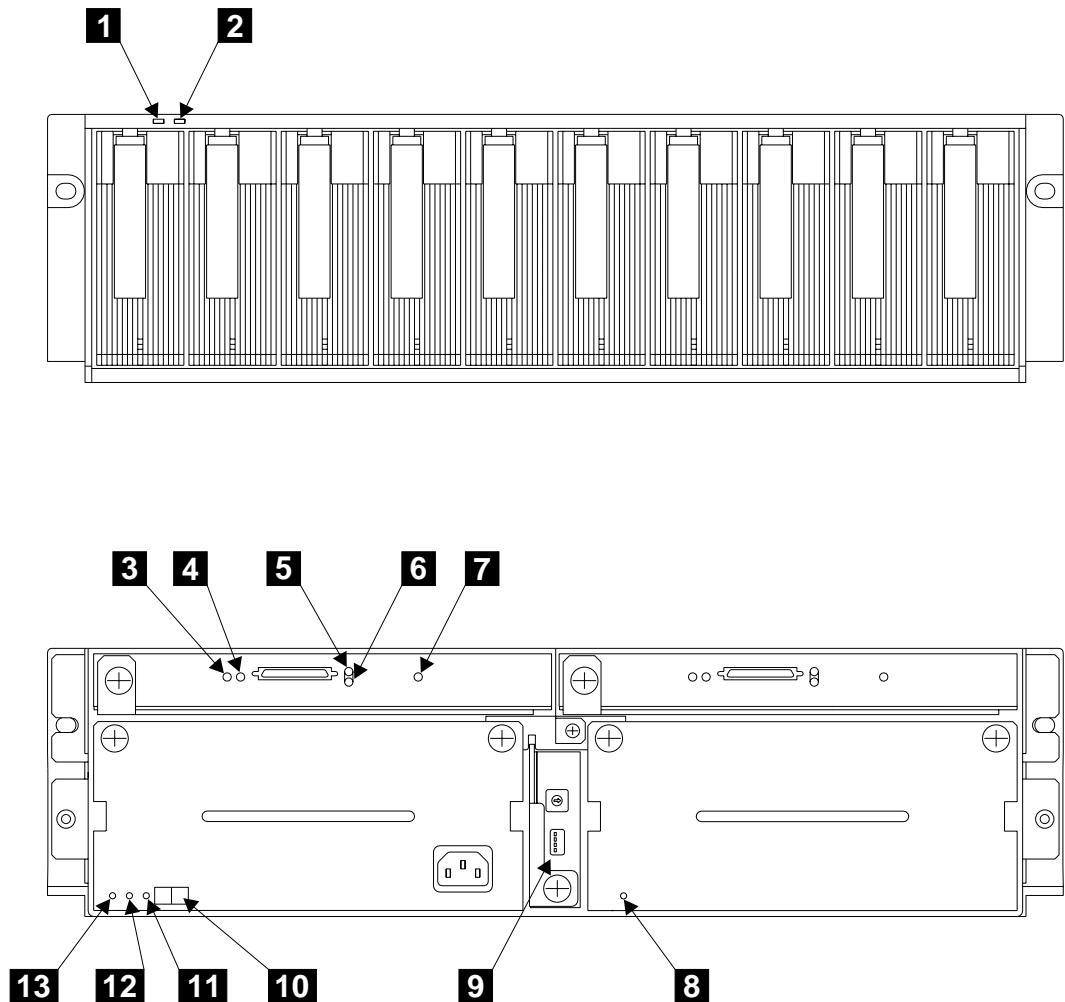
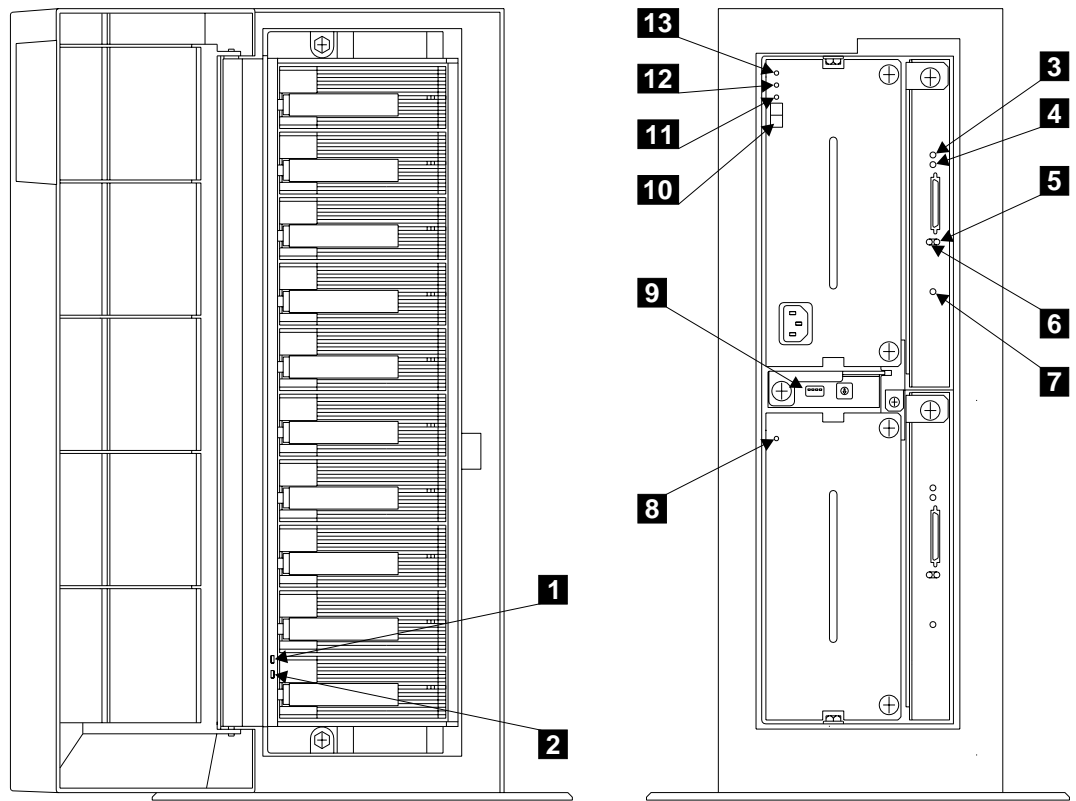
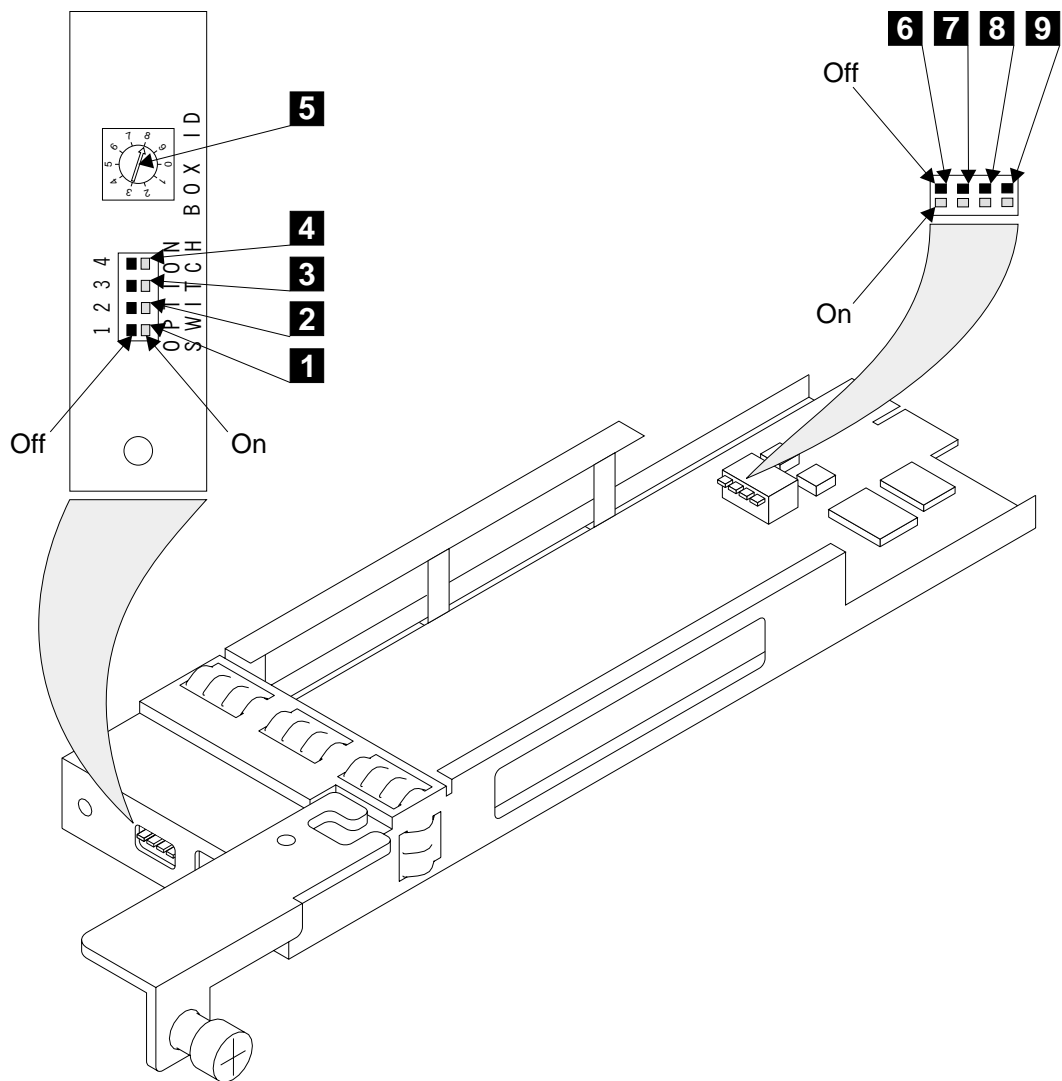
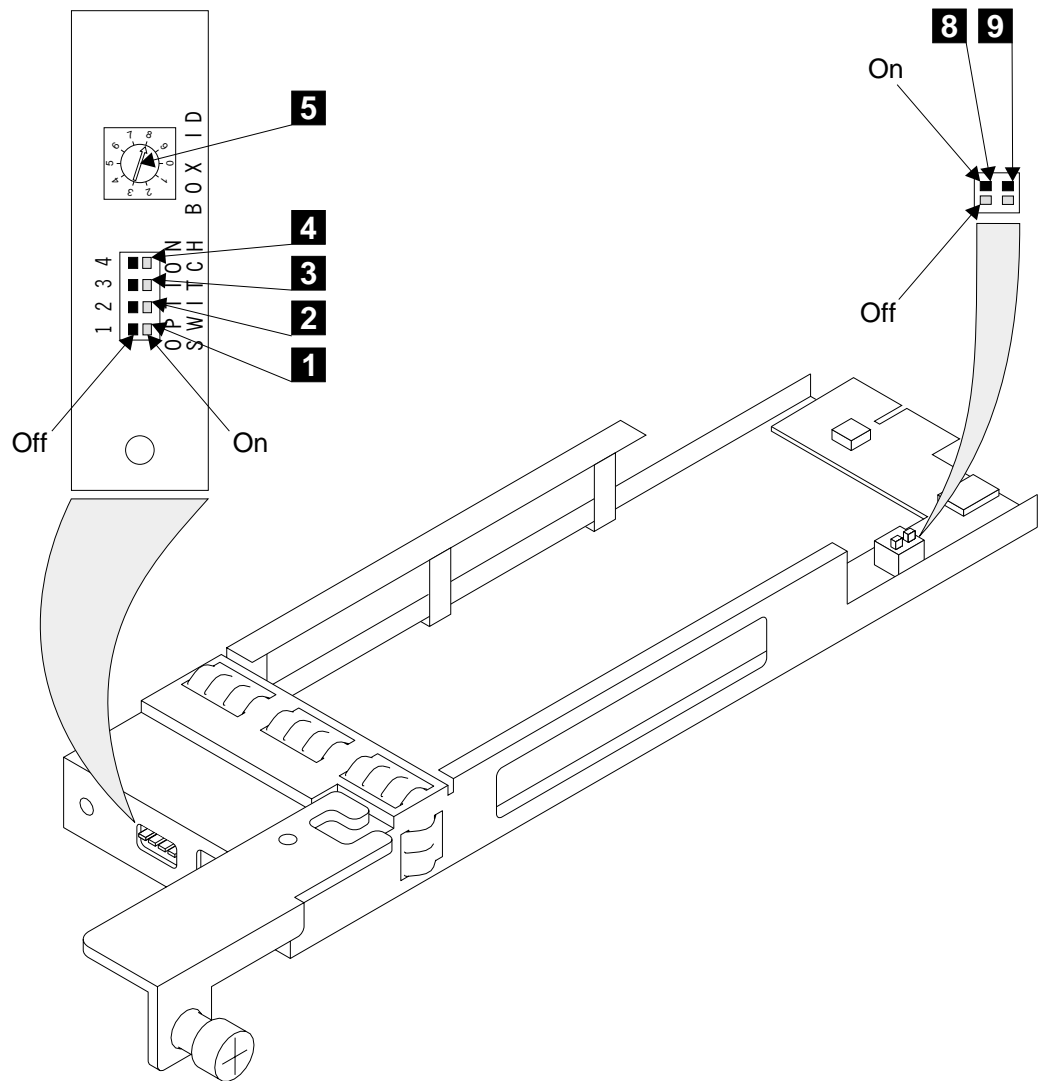

Figure 2. Lights and Switches of the 2104 Model DL1
Figure 3. Lights and Switches of the 2104 Model TL1
Figure 4. Switch Card Assembly Switches (Early Type)
Figure 5. Switch Card Assembly Switches (Later Type)
Figure 2 shows the lights and switches of the 2104 Model DL1; Figure 3 shows the lights and switches of the 2104 Model TL1.
To identify the lights that are described here, see Figures 2 and 3.
To identify the lights and switches that are described here, see Figures 2 and 3.
To identify the light that is described here, see Figures 2 and 3.
The switch card assembly is item **9** in Figures 2 and 3. To identify the switch card assembly switches, refer to Figure 4 or Figure 5 on page 9, as appropriate for your switch card assembly.
3. The numbers **6** and **7** have been intentionally omitted from Figure 5 so that so that the switch identifications in both diagrams are compatible with the following descriptions.